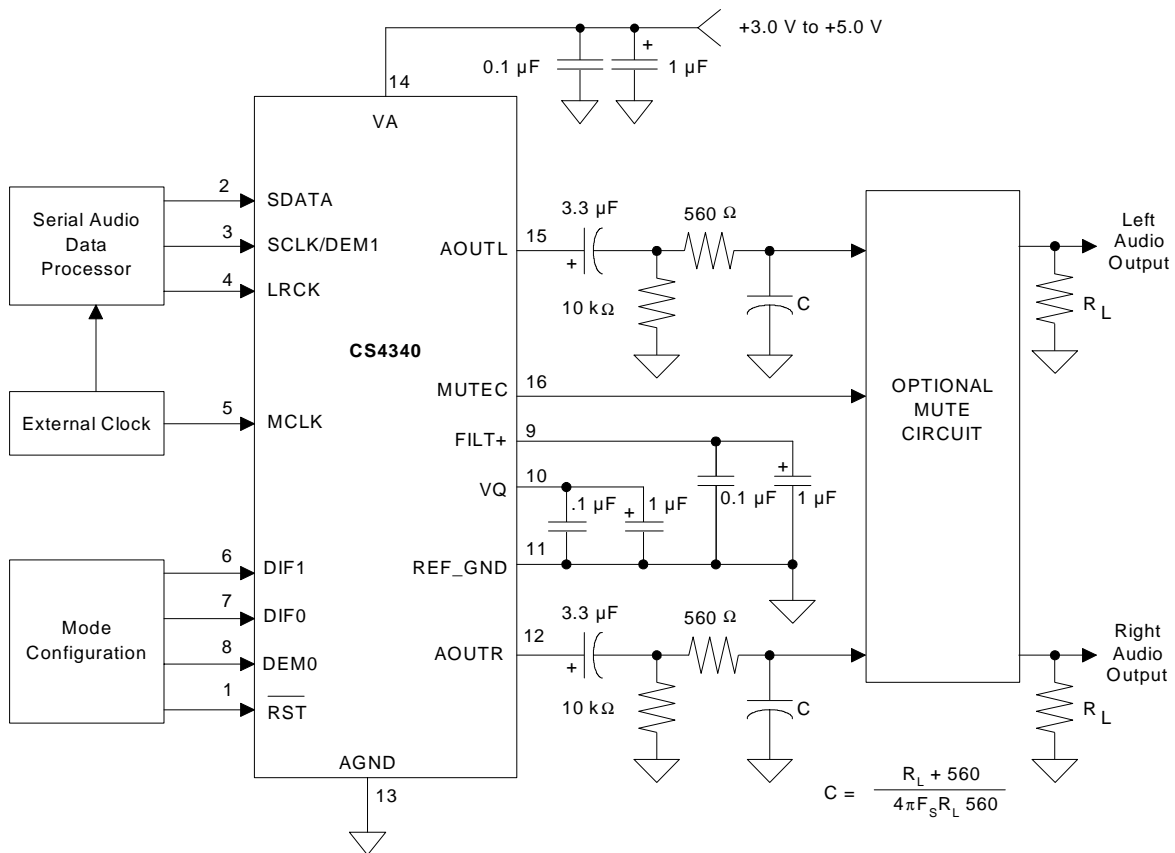

Figure 14. Typical Connection Diagram
10. Valid with the recommended capacitor values on FILT+ and VQ as shown in Figure 14. Increasing the capacitance will also increase the PSRR.
As with any high resolution converter, the CS4340 requires careful attention to power supply and grounding arrangements if its potential performance is to be realized. Figure 14 shows the recommended power arrangements, with VA connected to a clean supply. If the ground planes are split between digital ground and analog ground, REF_GND & AGND should be connected to the analog ground plane.